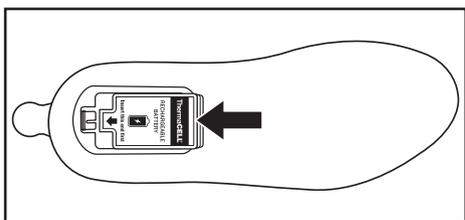

Figure 8
3. Align the battery on top of the Insole battery compartment with the foam side facing up so that the battery connector is facing the red Insole connector (Figure 8).